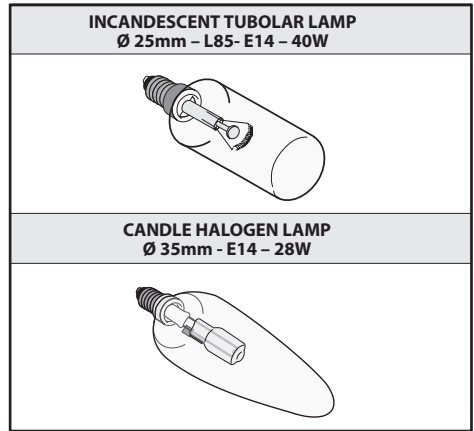

Fig.9
• Replacing the halogen/incandescent lamps (Fig.9):